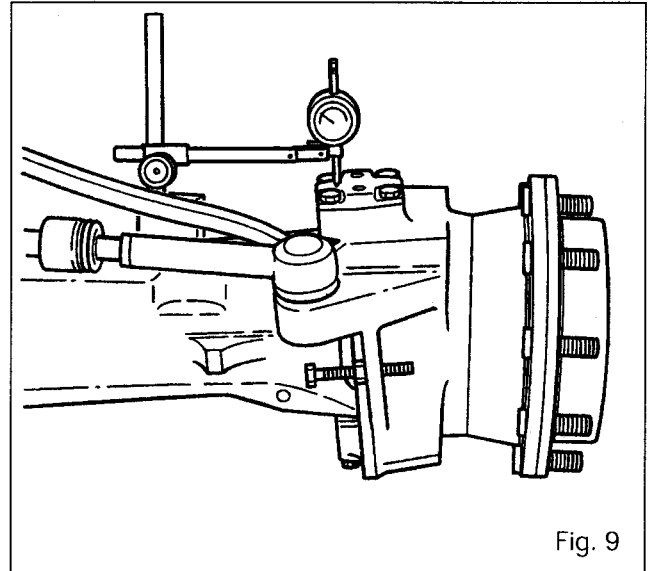
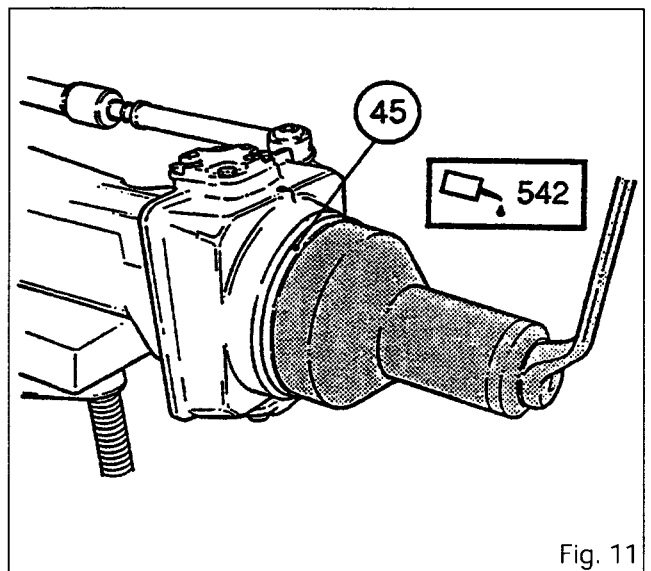

Fig. 9
Fig. 11
68. Using a dial gauge, measure the end play, using a lever between the axle housing and the swivel housing (Fig. 9).
69. Make up the play measured during the previous operation with the necessary thickness of shims (3). To obtain **P1**, add additional shims with a thickness of between 0.15 and 0.25 mm (0.15/0.25 being the preload value).
70. Remove the bolts (1), the cover (2) fitted with the grease nipple (32), and the cup (4). Refit the cup and the shims (3) selected during procedure 69. Refit the cover. Tighten the bolts (1) to a torque of 115 to 140 Nm.
71. Using a grease pump, lubricate the bearing (13) (14) and (4) (5).
72. Smear the circumference of the seal (45) with Loctite 542 (Fig. 11) and oil the lips. Fit the seal using the following tools: